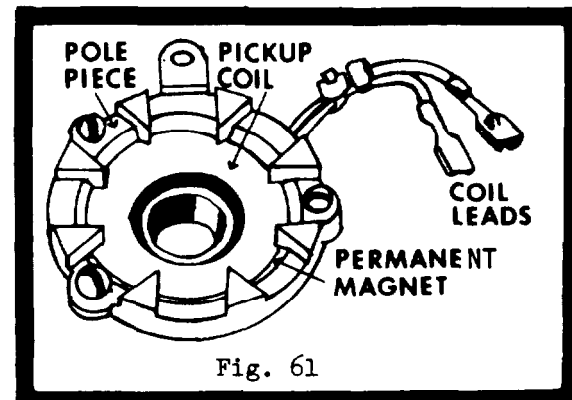

Fig. 61
3. Magnetic Pickup Assembly - Fig. 61.